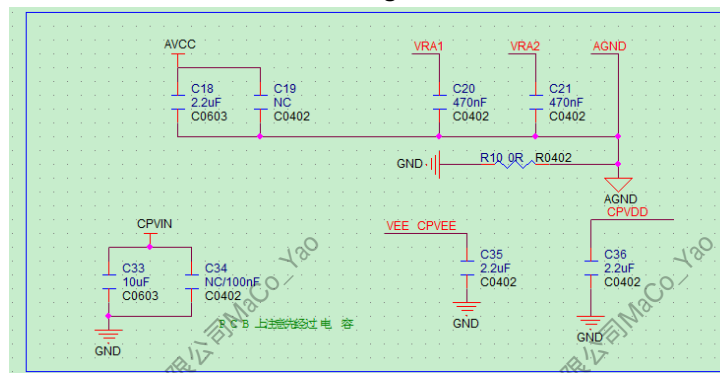

Figure 2-42 Audio Codec External Circuit
- The ground points of AVCC, VRA1, VRA2, and AGND are gathered to a point and must connect to a 0R resistance to GND. The parameters of the resistor and capacitor on the external network of the Audio CODEC module cannot be modified. As shown in Figure 2-42.